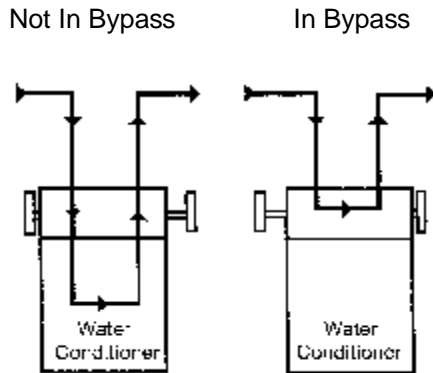
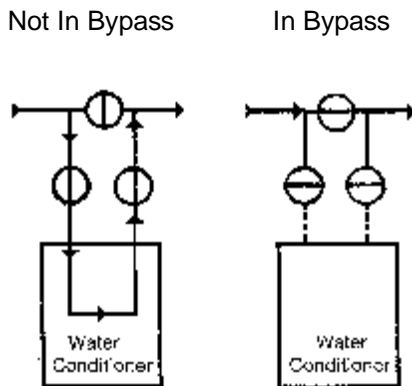

Figure 3 - Autotrol Series 156 Bypass Valve
Figure 4 - Typical Globe Valve Bypass
- STEP 1 Connect inlet, outlet pipes and drain line to control valve as per Instruction Booklet (page 5, figure 3).
A bypass valve system must be installed to provide for occasions when the water conditioner must be bypassed for hard water or for servicing. The most common bypass systems are the Autotrol Series 156 Bypass Valve, Figure 3, and plumbed-in globe valves, Figure 4. Though both are similar in function, the Autotrol Bypass offers simplicity and ease of operation.